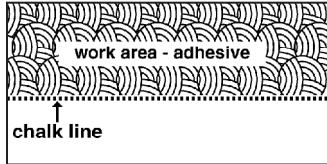

Fig. 3
- Line off entire area to be installed. Move the chalk lines to the corner or end of the room farthest from the doorway. These lines should be 2' or 3' from the wall depending on your reach (Fig. 3).